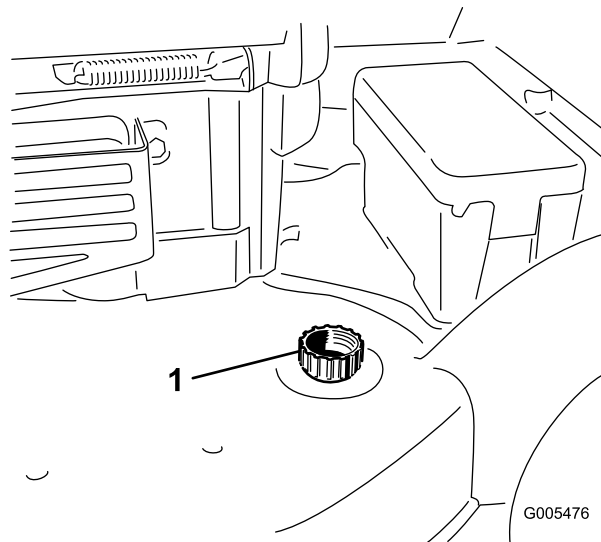

Figure 54
3. Attach a garden hose that is connected to a water supply to the washout port on the mower housing (Figure 54).